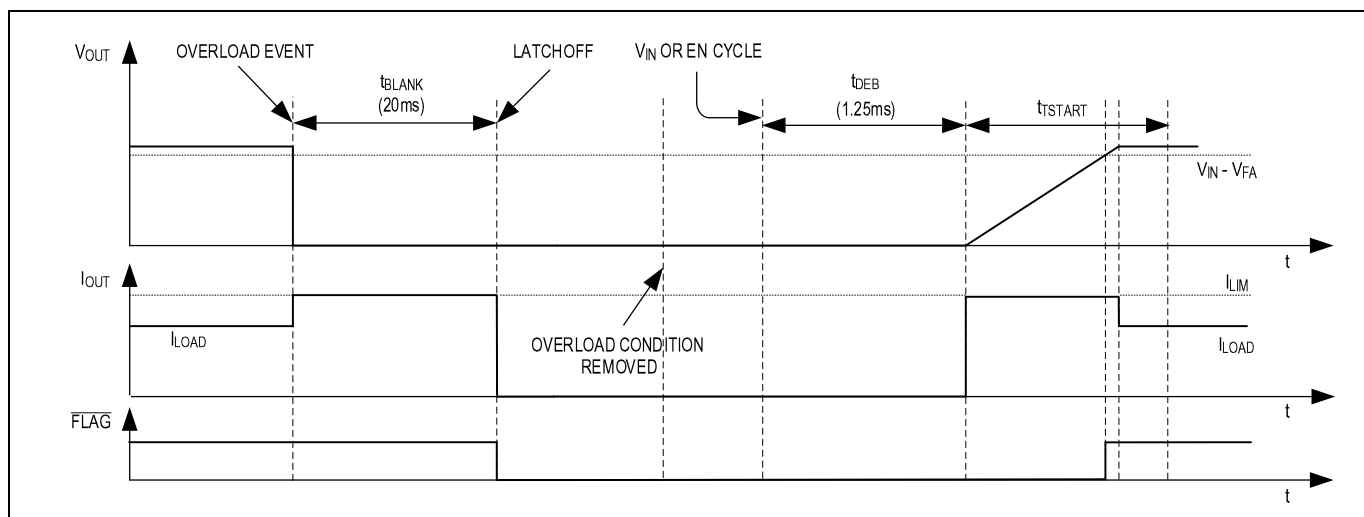

Figure 16. Overload Fault Timing Diagram in Latchoff Current-Limit Mode
In latch-off current-limit mode during normal operation, if the device enters current limit condition, then the t_{BLANK} timer starts. If the current limit condition exists for the t_{BLANK} duration, the output nFET Q2 is turned off and latched, the t_{BLANK} timer resets, and the \overline{FLAG} pin asserts while the input nFET Q1 is kept on. To reset the device, either toggle enable control signal (EN) or cycle the input voltage. Figure 16 depicts latch-off current-limit mode operation during overload event in normal operation.